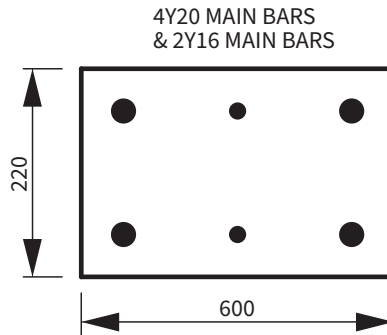

Figure 3
3.1 Figure 3 shows a rectangular reinforced concrete column. The column is reinforced with 4Y20 and 2Y16 main bars. The characteristic strength of the concrete is limited to 30 MPa.